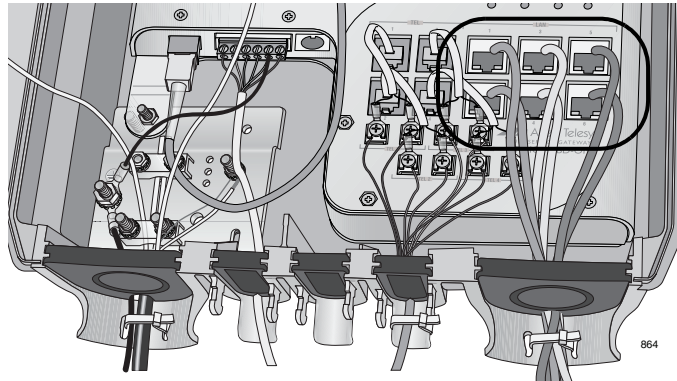

Figure 44. Connecting the LAN Cables
3. Connect the LAN cables to the RJ-45 ports on the gateway, and secure the wires with a wire tie, as shown in Figure 44.